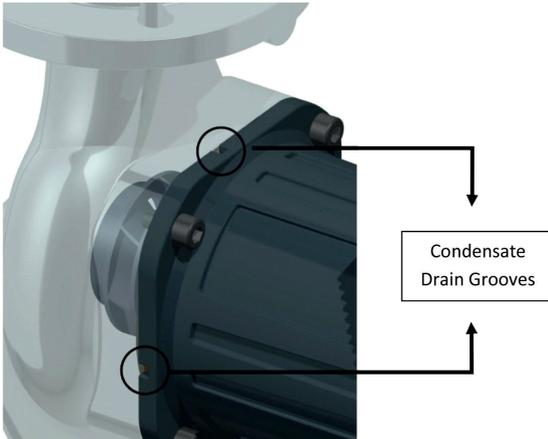

Figure 6.5: Condensate Drain Grooves
9. Make sure that the four condensate drain grooves around the pump are open. See Figure 6.5.